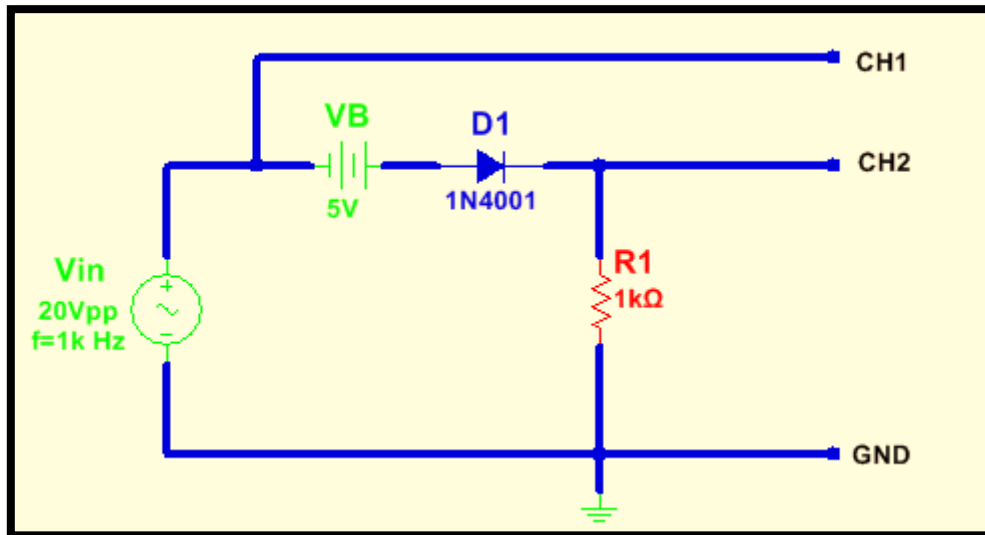

Figure 10: Practical Biased Series Clipping Circuit
4. Connect the biased series clipping circuit shown in Fig.10, and apply a 20Vpp sinusoidal input waveform with frequency of 1 kHz at the input. Display and sketch the input and the output waveforms.